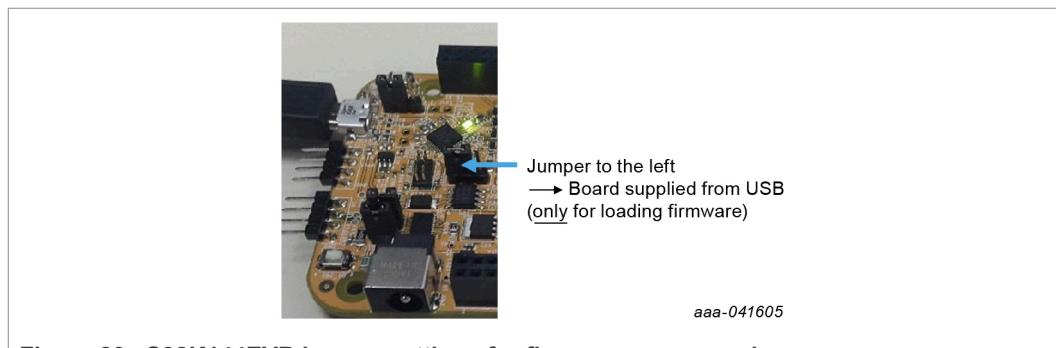

Figure 20. S32K144EVB jumper settings for firmware programming
1. Confirm that the jumpers are in the correct position for firmware programming (Figure 20)